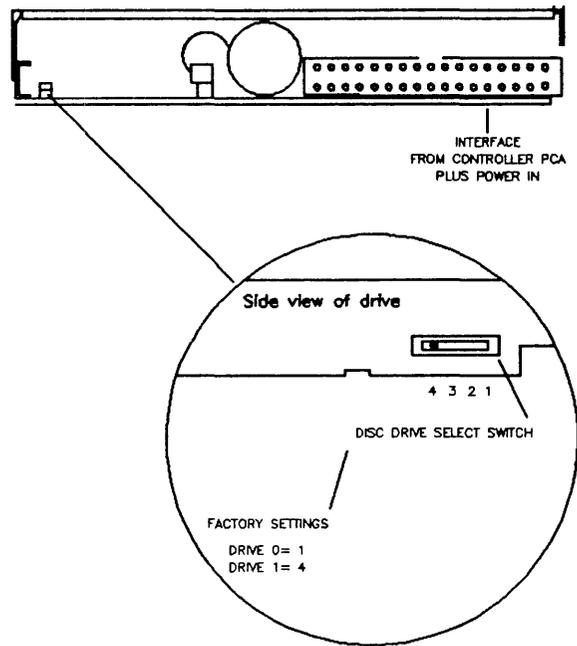

Figure 4-5. Disc Drive Select Switch (09123-69101).
- To assemble, reverse the above process. Ensure that the drive select switch is set to the proper position. Refer to Figure 4-5, Chapter 4 of this Manual, for location and proper setting of the switch.